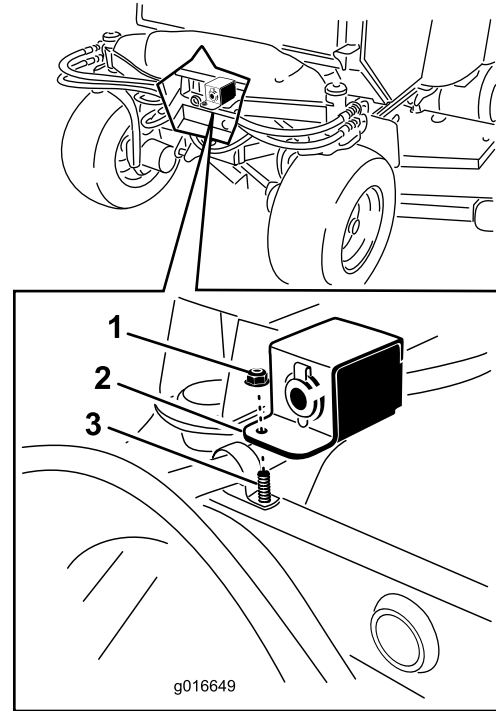

Figure 3
5. Remove the nut from the R-clamp bolt that secures the right front traction hose (Figure 3)
6. Install the power point bracket and cover box onto the bolt and secure it with the nut previously removed (Figure 3).